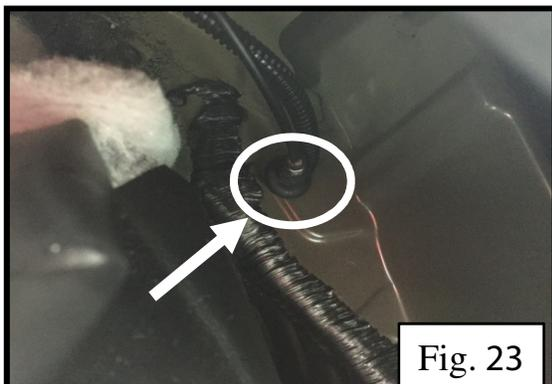

Fig. 23
8. Remove the grommet around the hood release cable located on the firewall (white circle/arrow) cut a slit or "V" shape in grommet and feed the harness through until snug (Fig.23).